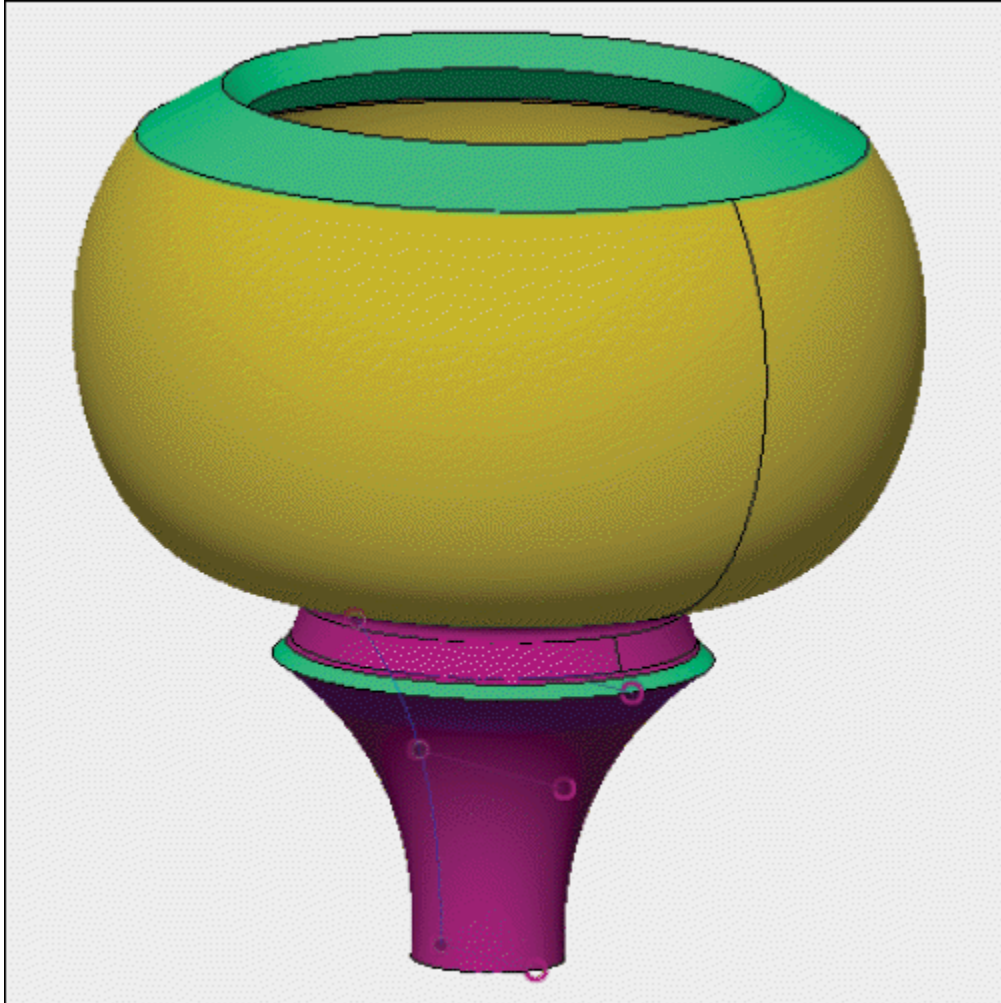

Figure-53. Curvature map analysis of model
- After specifying the parameters for analysis, click on **OK** button from **CURVATURE MAP ANALYSIS** dialog box to exit this analysis; refer to Figure-53.